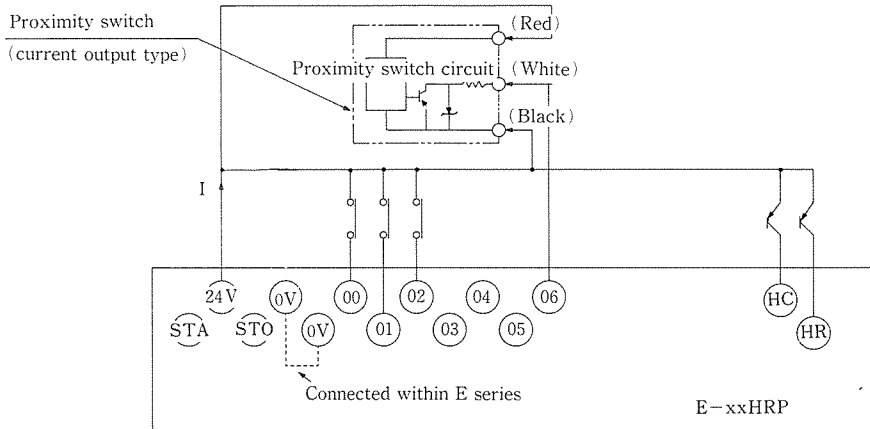

Fig. 7-9 Input wiring for Expansible Basic Unit
① Fig. 7-9 shows the wiring for the external input of the expansible basic unit.